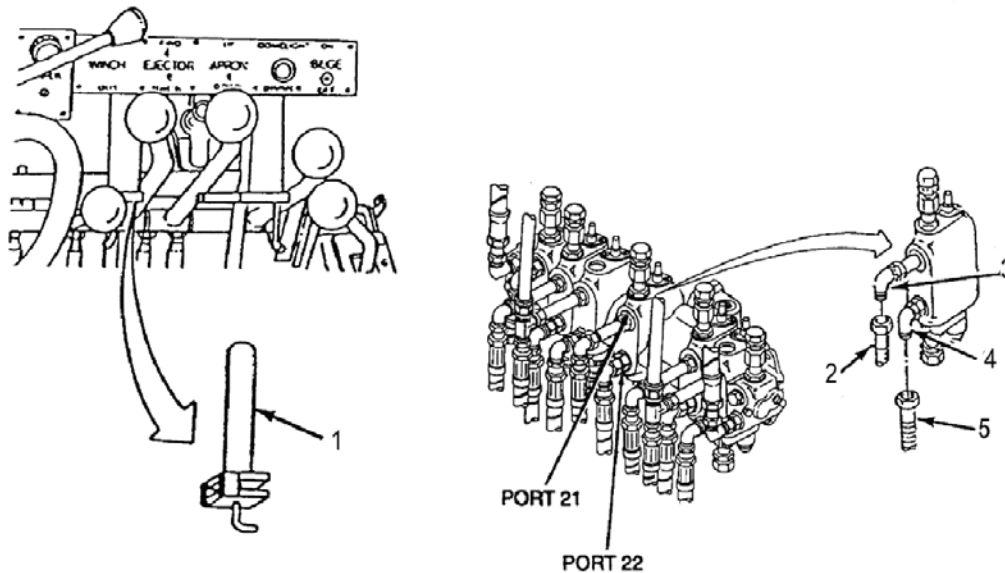

Figure 23. Locking and Disabling Ejector
1. When working in the bowl, always engage the ejector lock (Figure 23, item 1) to prevent the ejector from being extended (FWD) or retracted (BACK).
3. If necessary, disable the ejector from the hydraulic system by disconnecting CONT VLV-21 hose (Figure 23, item 2) from elbow (Figure 23, item 3) at port 21 and CONT VLV-22 hose (Figure 23, item 5) from elbow (Figure 23, item 4) at port 22 on ejector control valve. Cap and plug hoses and fittings.